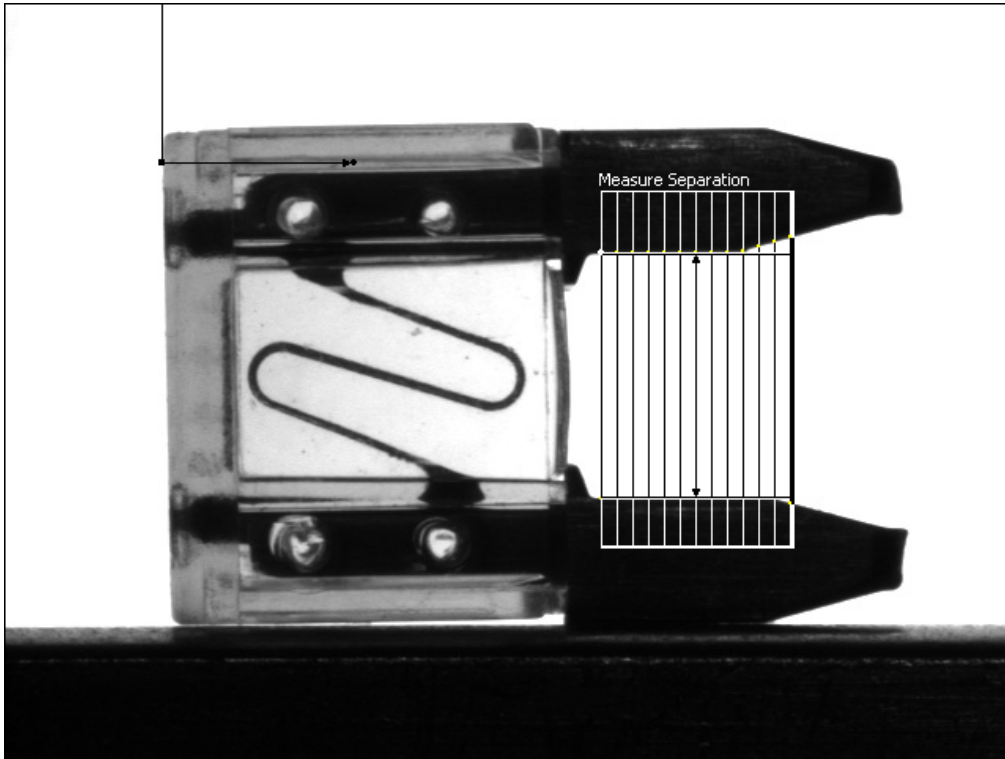

Figure 4-2. Measuring the Distance Between Two Edges
5. Draw an ROI across the blade connectors, as shown in Figure 4-2.